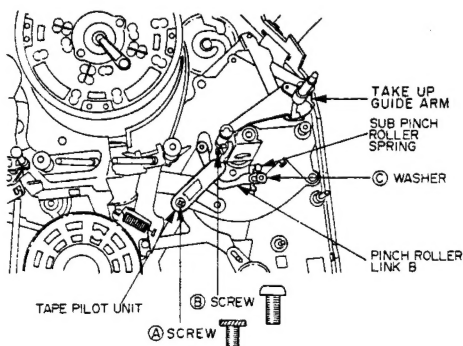

Fig. 3-30
2. Remove the TAKE UP GUIDE ARM as shown in Fig. 3-30.